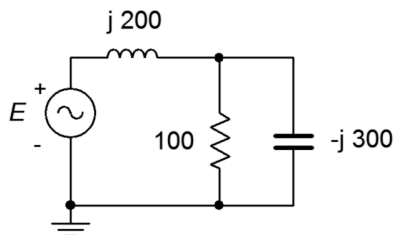

Figure 4.8
9. For the circuit of Figure 4.8, determine voltages across R, L and C if the source is 7 volts RMS.
10. For the circuit of Figure 4.8, determine the source current and the current through each of the three components. Also, draw a phasor diagram of E , v_L and v_R .
34. Determine the required inductive reactance in Figure 4.8 to shift the capacitor voltage to half of the source voltage.